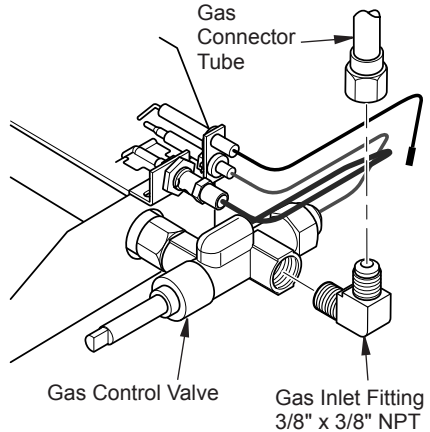

Figure 3
5. Carefully shape the gas supply tube and attach to gas inlet fitting as shown in Figure 3. Be careful not to cause kinks in tube.